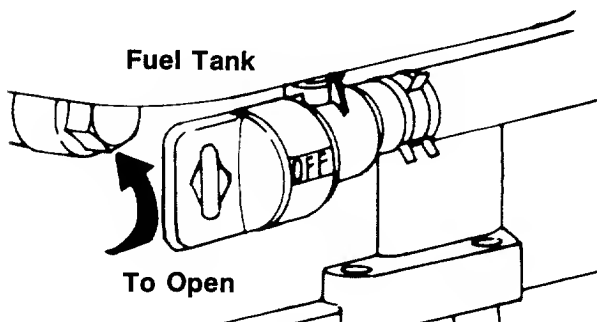

FIGURE 18.
2. **Deluxe Briggs and Stratton engines:** Open fuel shut-off valve. See figure 18.